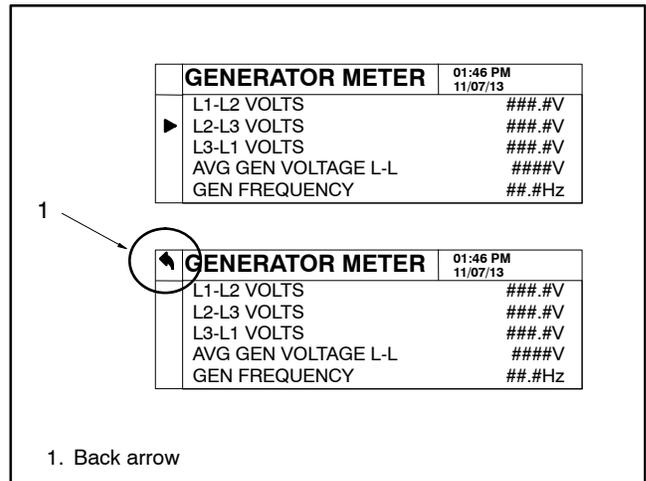

Figure 1-4 Back Arrow Location
- To return to the previous menu, rotate the dial (counterclockwise or clockwise) until the back arrow appears in the upper left corner and press the dial. See Figure 1-4.